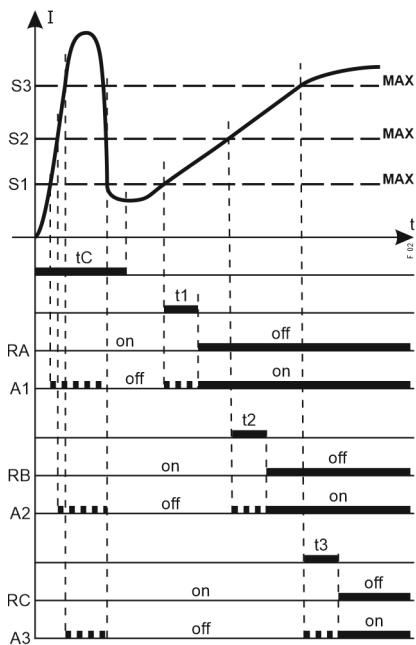

Fig. 2
**S1** soglia di MAX (Fig. 2 e 3)
**S1** MAX set-point (Fig. 2 and 3)